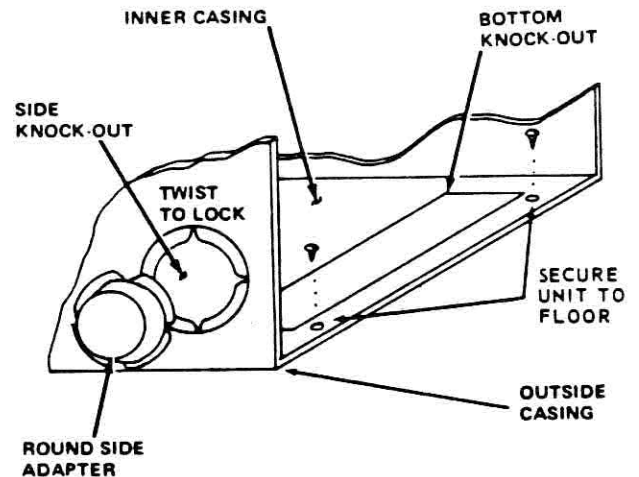
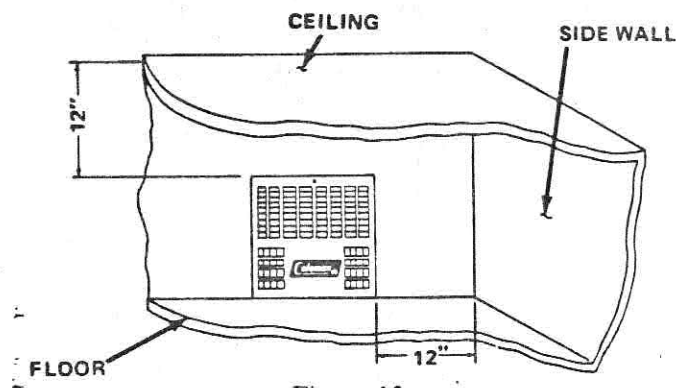

Figure 9
Figure 15
aligns with the 4" x 6" opening made in step 2 above. Secure the unit to the floor, as shown in Figure 9.
strated in Figure 9. Only 1/8 of a turn is required for locking and sealing. Openings in combustible panels with in one inch of casing shall be 6 inches in diameter.
8. Place the furnace with floor thimble attached over the floor opening and position so that the tabs on the thimble extend downward into the under-floor duct. From inside the furnace bend tabs under to secure the thimble to the duct. (The unit must be secured to the floor. (See Figure 9). Furnace may be secured to vehicle thru side panels if necessary.
3. Position the heater inside the vehicle so that the elliptical connector on the back of the furnace aligns with the 4" x 6" opening made in step 2 above. Refer to Figure 15 and make certain that the minimum clearances to ceiling and side walls are maintained as shown. Secure the unit to the floor. See Figure 9.